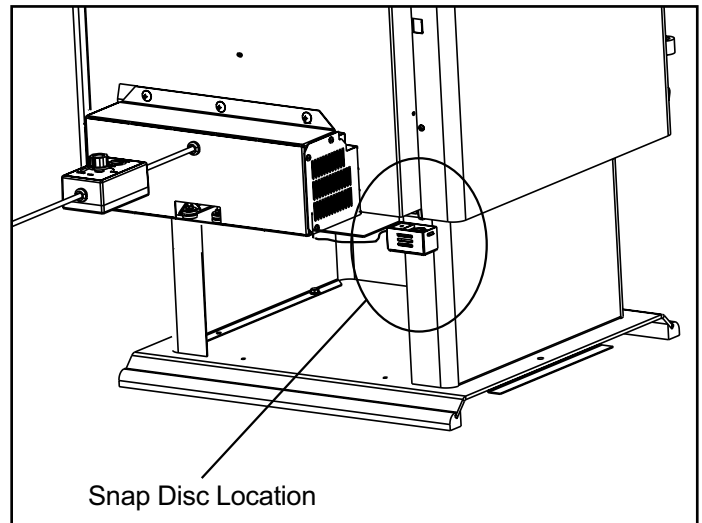

Figure 30.3
1. Locate the snap disc bracket assembly at the bottom left rear corner of the stove. **Figure 30.3.**